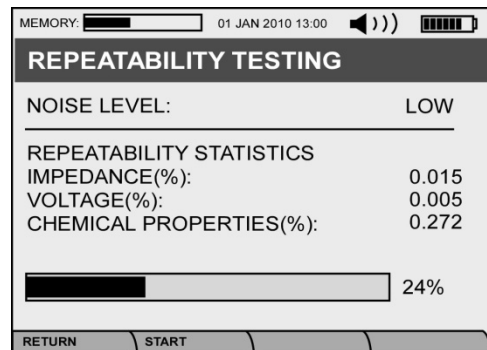

Figure 5.2. Baseline Utility screen.
The **REPEATABILITY UTILITY** tool (Figure 5.2) is fully automated and should be performed in the conditions representative of the normal test conditions. The simply connects the Analyzer to a DUT and presses the **F2** (Start) button. The Analyzer then performs a series (5) of measurements and reports the noise level and repeatability statistics (CV – Coefficient of Variation) measure for **IMPEDANCE, VOLTAGE** and **CHEMICAL PROPERTIES** (Sulfation and Dryout).